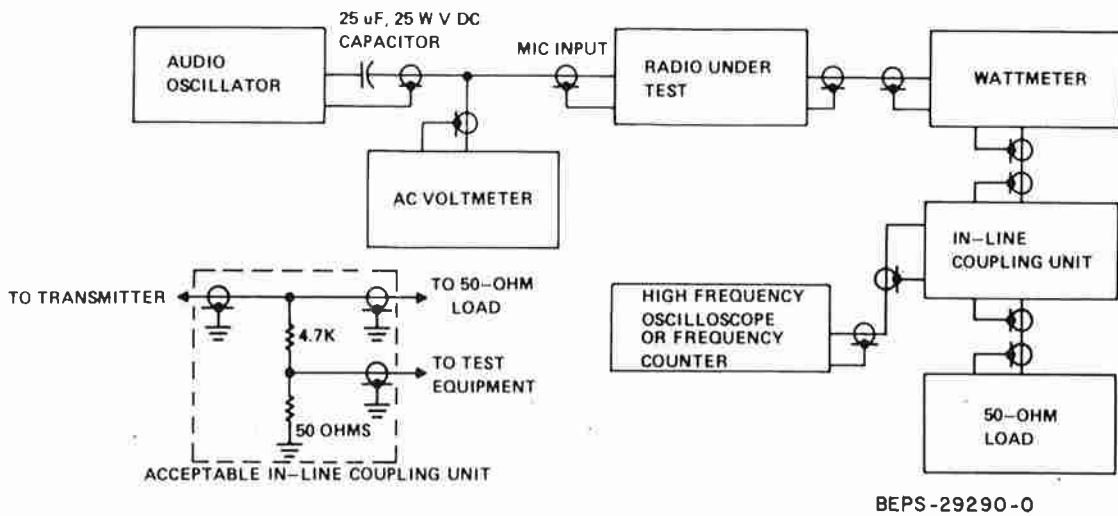

Figure 2. Test Equipment Set-Up
Step 2. Connect a wattmeter and a 50 ohm load to the antenna connector. Couple the frequency counter to the transmitter output using an in-line coupling unit (see Figure 2).
Step 3. Connect a wattmeter and 50-ohm load to the antenna jack. Couple an oscilloscope to the transmitter output using a coupling unit constructed as shown in Figure 2. Connect an audio oscillator to pins 1 (audio high) and 3 (ground) of the microphone connector.
Step 4. With the oscilloscope connected as shown in Figure 6 adjust the AME control (R91) for the desired waveform shown in Figure 2. There must be no crossover distortion of the rf envelope.
Step 3. Connect an oscilloscope as shown in Figure 2.